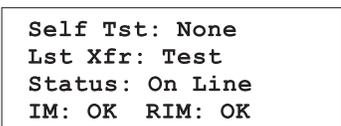

Fig 5-21 Miscellaneous Status Screen
- 7. Press the “Down” arrow key to scroll to the miscellaneous status screen. The bottom line indicates the status of the Main Intelligence Module (MIM) and the Redundant Intelligence Module (RIM). The sample screen in figure 5-21 indicates that both are installed and functioning properly (OK). If a module is not installed, the status screen will display the word “NONE.” Confirm that the IM and RIM status are correct. Use the “ESC” key to return to the startup screen.